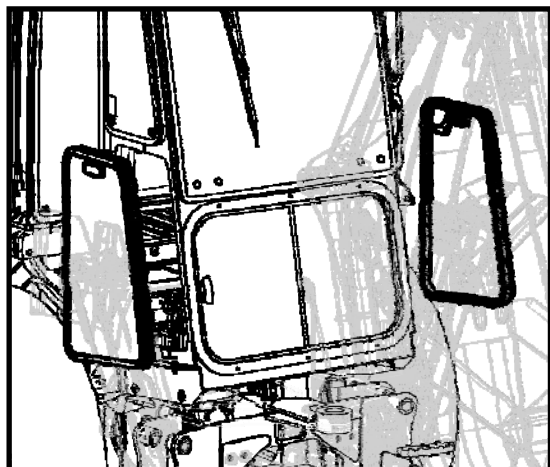

Figure 18.10: Backhoe Cab Side Windows
- 18.10 Install backhoe cab side windows (see Figure 18.10).